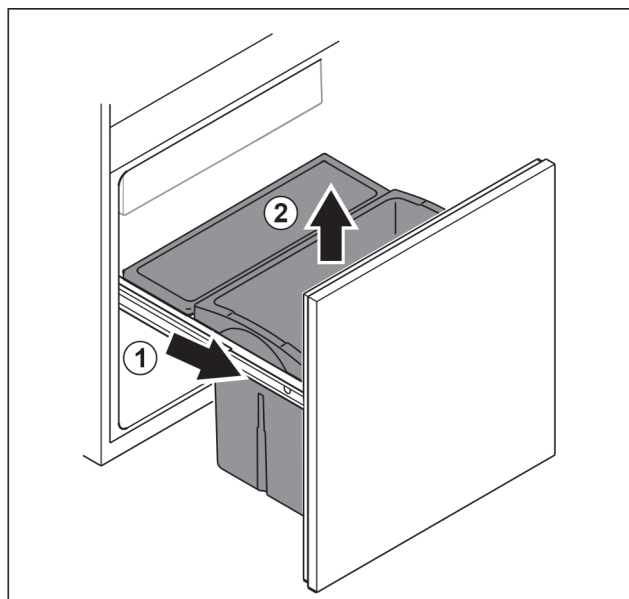

Fig. 100
- Remove the pull-out unit as far as it will go. Fig. 100 (1)
- Remove drawer upwards. Fig. 100 (2)